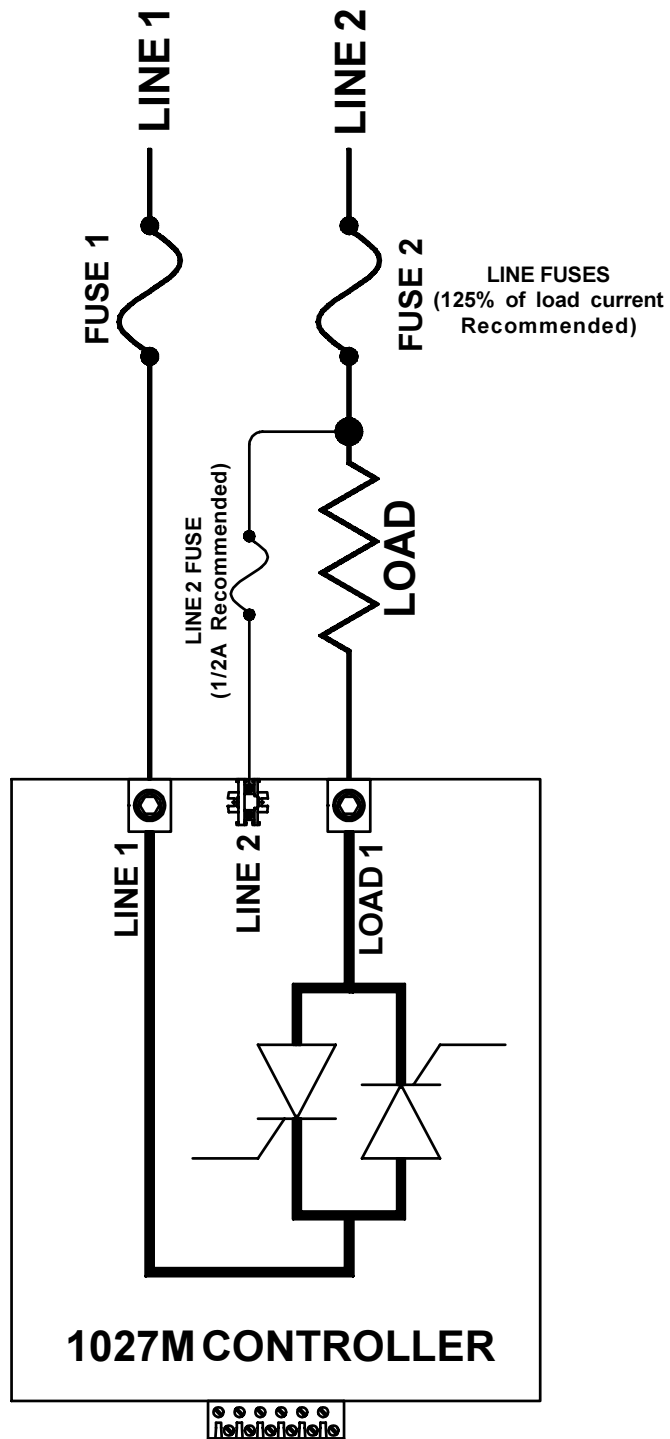

Figure 3. In-line power connections.
1. Determine that line voltage is present on line 1 and line 2 input terminals and that the load is wired correctly. See figure 3.